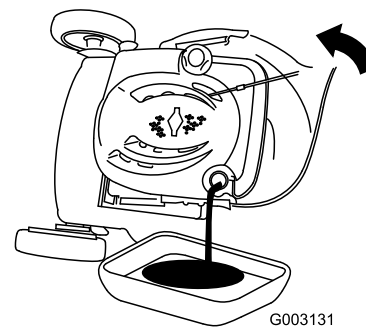

Figure 29
3. Tip the mower onto its side, with the air filter up, to drain the used oil out through the oil fill tube (Figure 29).